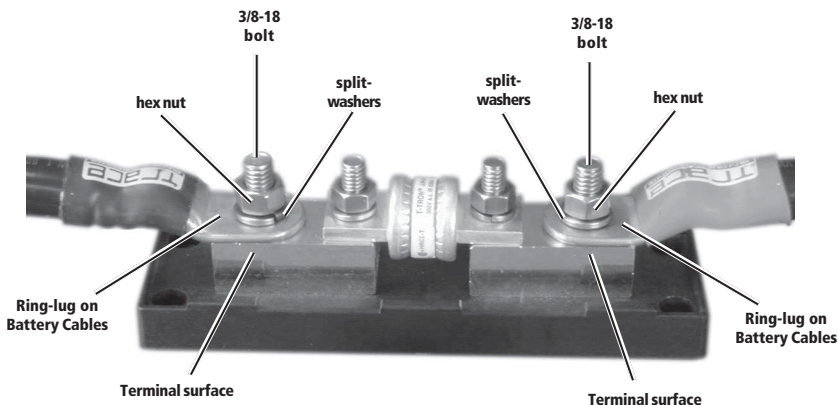

Figure 4
| Figure 4 | Installation for Ring-lugged Battery Cables | 8 |
-  See Figure 4.